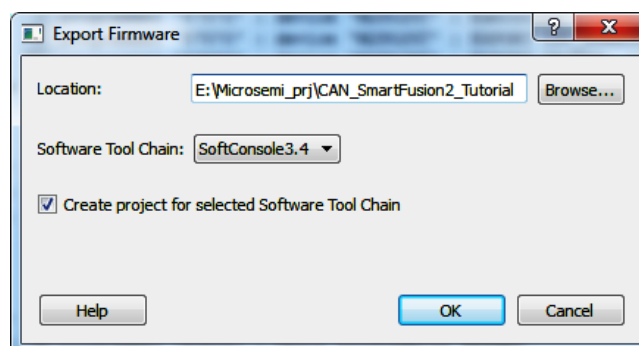

Figure 19 • Export Firmware
3. Select the **Create project** check box and select **SoftConsole3.4** from the drop-down list as shown in Figure 19. By default, the firmware and SoftConsole project files are created in the same directory where the Libero project is created.